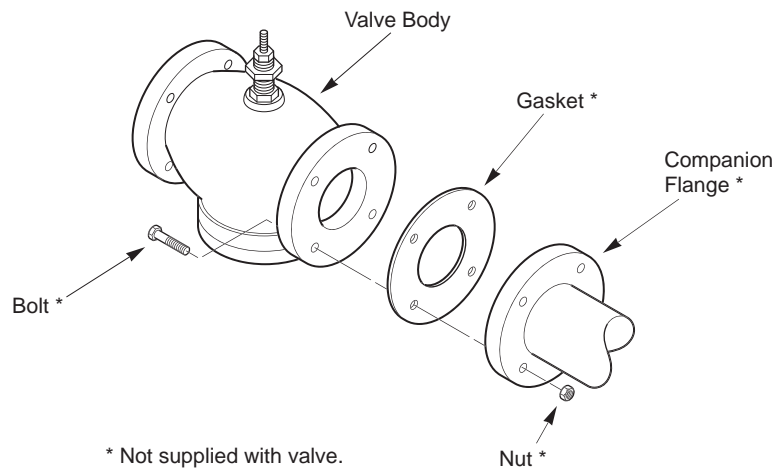
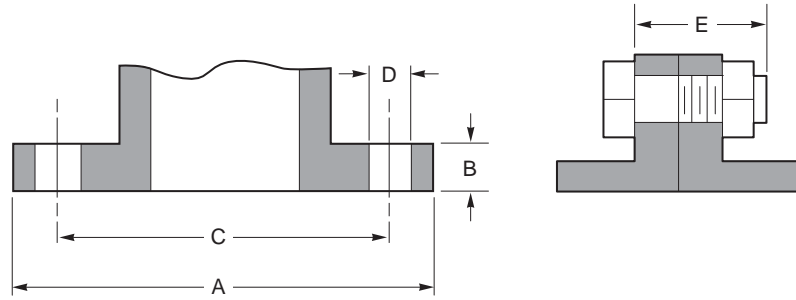

Figure-3 Installation of Flanged End Valves
Figure-6 Flange Dimensions
4. Figure-3 shows the proper way a flanged valve should be mounted. See Figure-6 and Table-9 for flange and flange bolt details.
Table-9 Flange Detail for American Standard 125 psi Cast Iron Pipe Flanges (Figure-6)